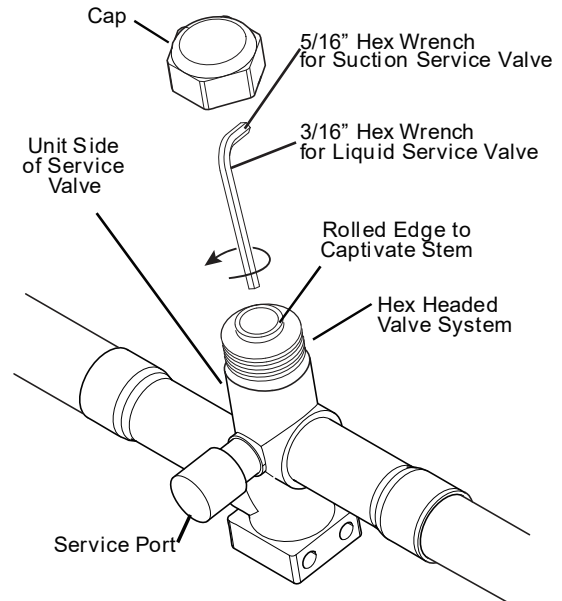

Figure 10-1
1. Remove Service Valve Cap (Fig. 10-1).